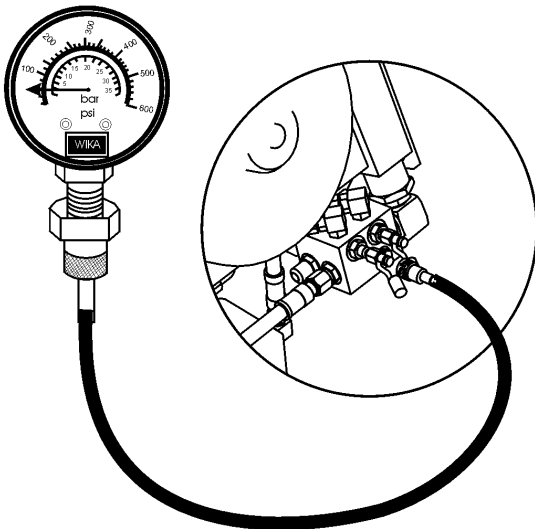

Figure 27. Steering Pressure Check
2. Install 300 or 600 PSI gauge (Figure 27).